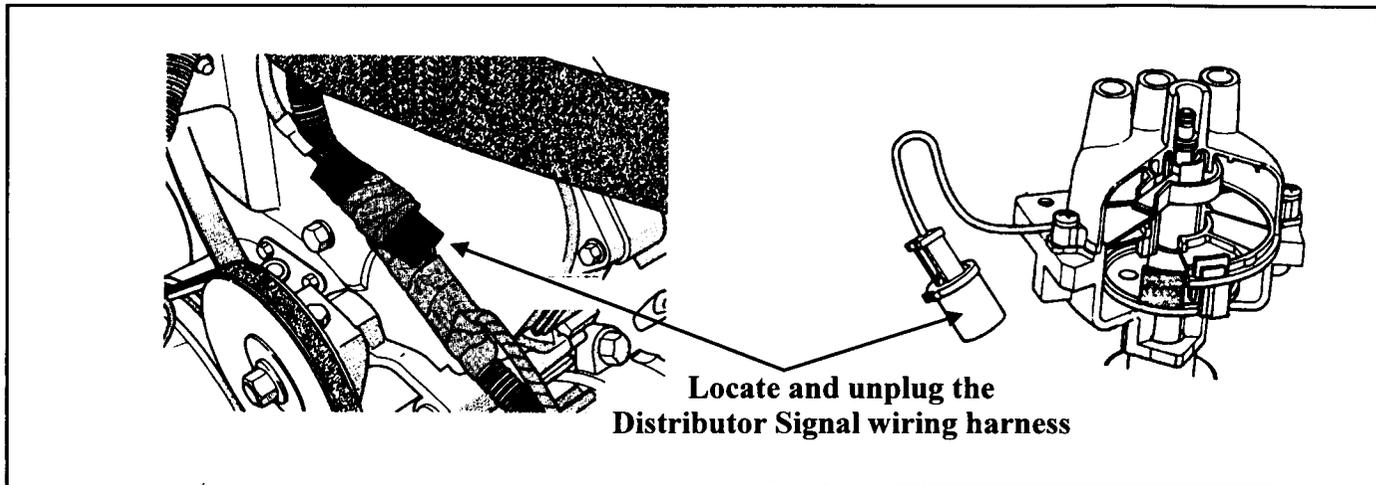

Figure 23
- Go to the distributor and locate a wiring harness coming out from the bottom of the distributor. Trace the harness downstream away from the distributor until you locate the round 4 wire plug as shown in Figure 23. Unplug this 4 way connector and the TCM connector. Perform a continuity check across terminal 2 in the distributor vehicle harness connector to the number 51 wire in the TCM connector as indicated in Figure 24. If there is no continuity, repair or replace the wire. If continuity is seen, go to the next step.